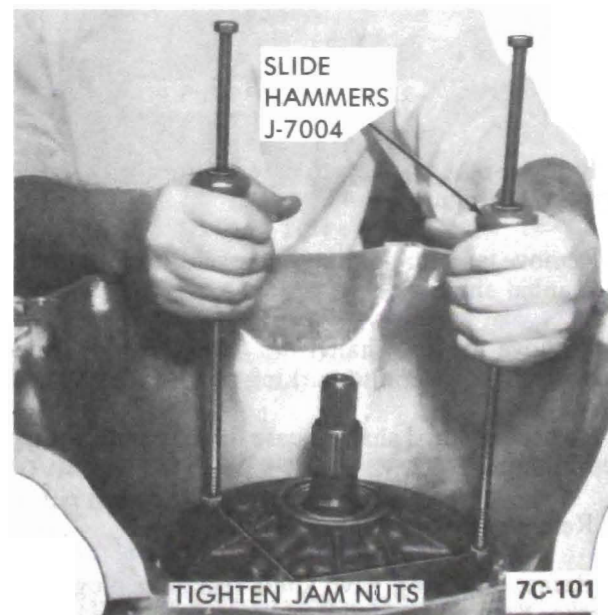

Figure 7C-53
1. Remove eight (8) pump attaching bolts with washer type seals. Discard washer type seals.
2. Install two (2) threaded slide hammers J-7004 into threaded holes in pump body. Tighten jam nuts and remove pump assembly from case. See Figure 7C-53.